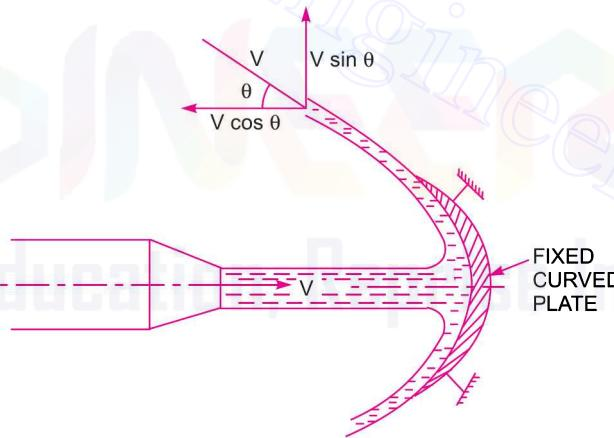

Fig. 17.3 Jet striking a fixed curved plate at centre.
(A) Jet strikes the curved plate at the centre. Let a jet of water strikes a fixed curved plate at the centre as shown in Fig. 17.3. The jet after striking the plate, comes out with the same velocity if the plate is smooth and there is no loss of energy due to impact of the jet, in the tangential direction of the curved plate. The velocity at outlet of the plate can be resolved into two components, one in the direction of jet and other perpendicular to the direction of the jet.